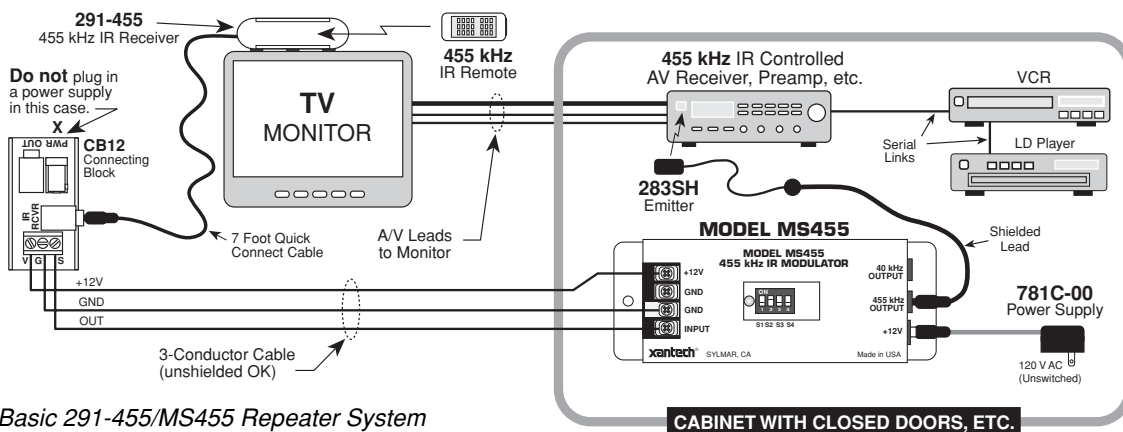

Fig. 2 Basic 291-455/MS455 Repeater System
A basic installation, using one 291-455 in a typical 455 kHz IR controlled A/V receiver system located behind closed cabinet doors, is shown in Fig. 2.
- Make the 3-conductor, power supply & emitter connections to the MS455 Modulator as shown in Fig. 2.
- Fig. 2 shows a VCR and an LD player connected by serial links to the A/V receiver. This assumes that the VCR and the LD player are the same brand as the A/V receiver and that the serial link is compatible between the three components. Refer to the manufacturer of the units for details.